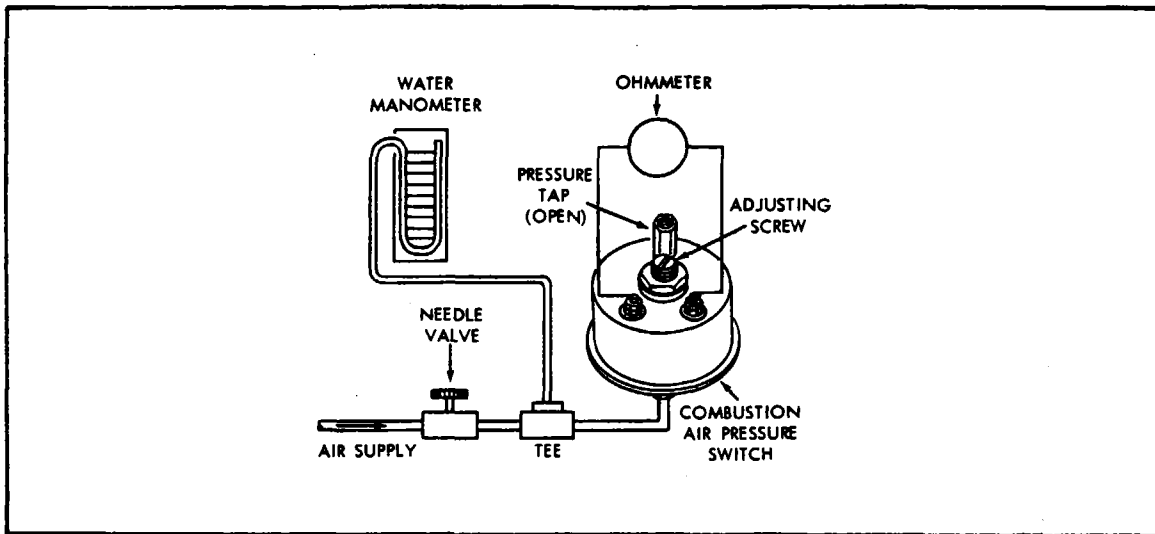

Figure 13-30. Test Setup for Combustion Air Pressure Switch
a. Discard all rubber parts such as grommets, gaskets, etc. These items should always be replaced at overhaul. Also discard the rope gasket (85).
d. The combustion air pressure switch (41) must respond to delicate pressure changes and should always be checked and/or replaced at overhaul. (Refer to paragraph 13-125, c, and Figure 13-30.)
- 1. Connect an adjustable air pressure line that can be controlled in a range of zero to 5.0 (maximum) of water to the switch opening with a water manometer and needle valve in the line ahead of switch. Switch must be tested in 45 degree position as shown in Figure 13-30.